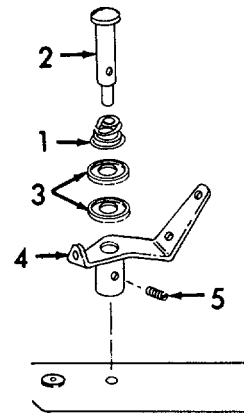

Figure 6-88. Needle Thread Guide, Assembly.
f. *Assembly (Refer to Figure 6-88).*
- (1) Install spring (1) on pin (2).
- (2) Place bevels of discs (3) together and install disc on pin (2).
- (3) Install thread guide (4) on pin (2) and tighten setscrew (5).